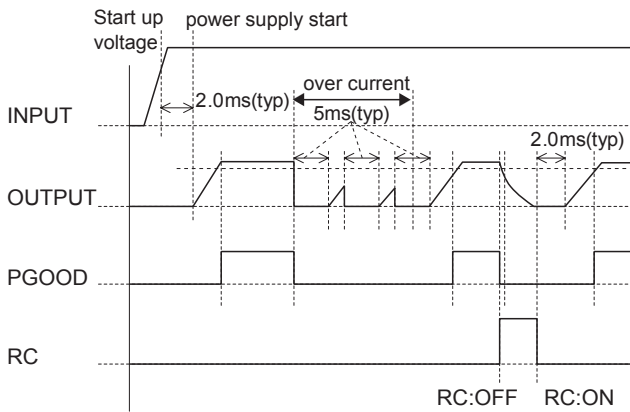

Fig.4.9 Sequence chart of BRNS
- Fig.4.9 is a sequence chart of each function of BRNS.